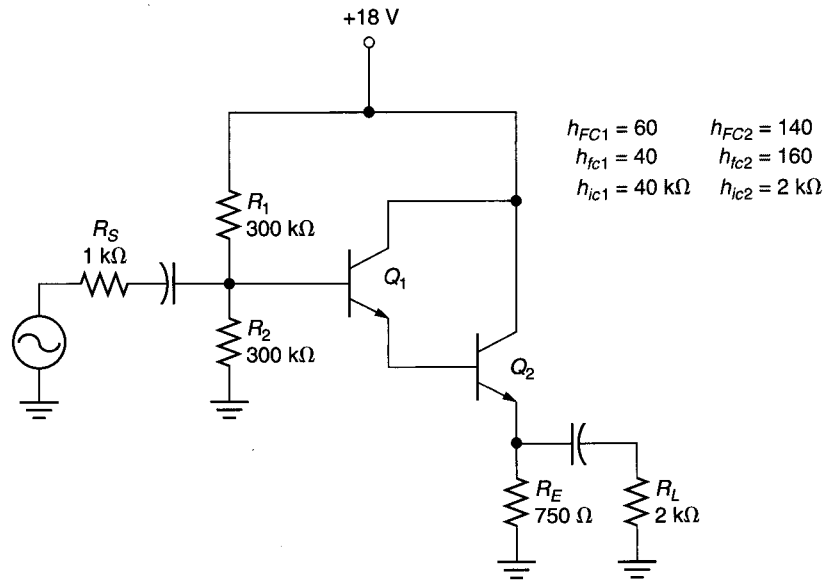

FIGURE 10.26
15. Determine the values of  $I_E$  and  $R_{IN1}$  for the amplifier in Figure 10.26.
17. Determine the values of  $Z_{in}$  and  $Z_{out}$  for the circuit shown in Figure 10.26.
19. Determine the value of  $A_i$  for the circuit shown in Figure 10.26.
21. Perform a “quick” analysis on the amplifier in Figure 10.26.
32. The circuit shown in Figure 10.26 has the output waveform shown in Figure 10.32. Discuss the possible causes of the problem.